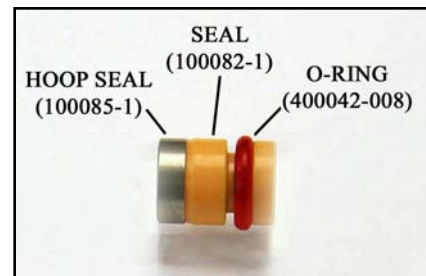

FIGURE 8
19. Install the O-Ring (400042-008) onto the groove of Seal (100082-1). **See Figure 8.**
20. Slide the Seal (100082-1) onto the Seal Insertion Tool, with the taper end facing away from the tool. Slide the Hoop Seal (100085-1) onto the Seal Insertion Tool, sharp edge facing the Seal. **See Figure 8 and 9.**